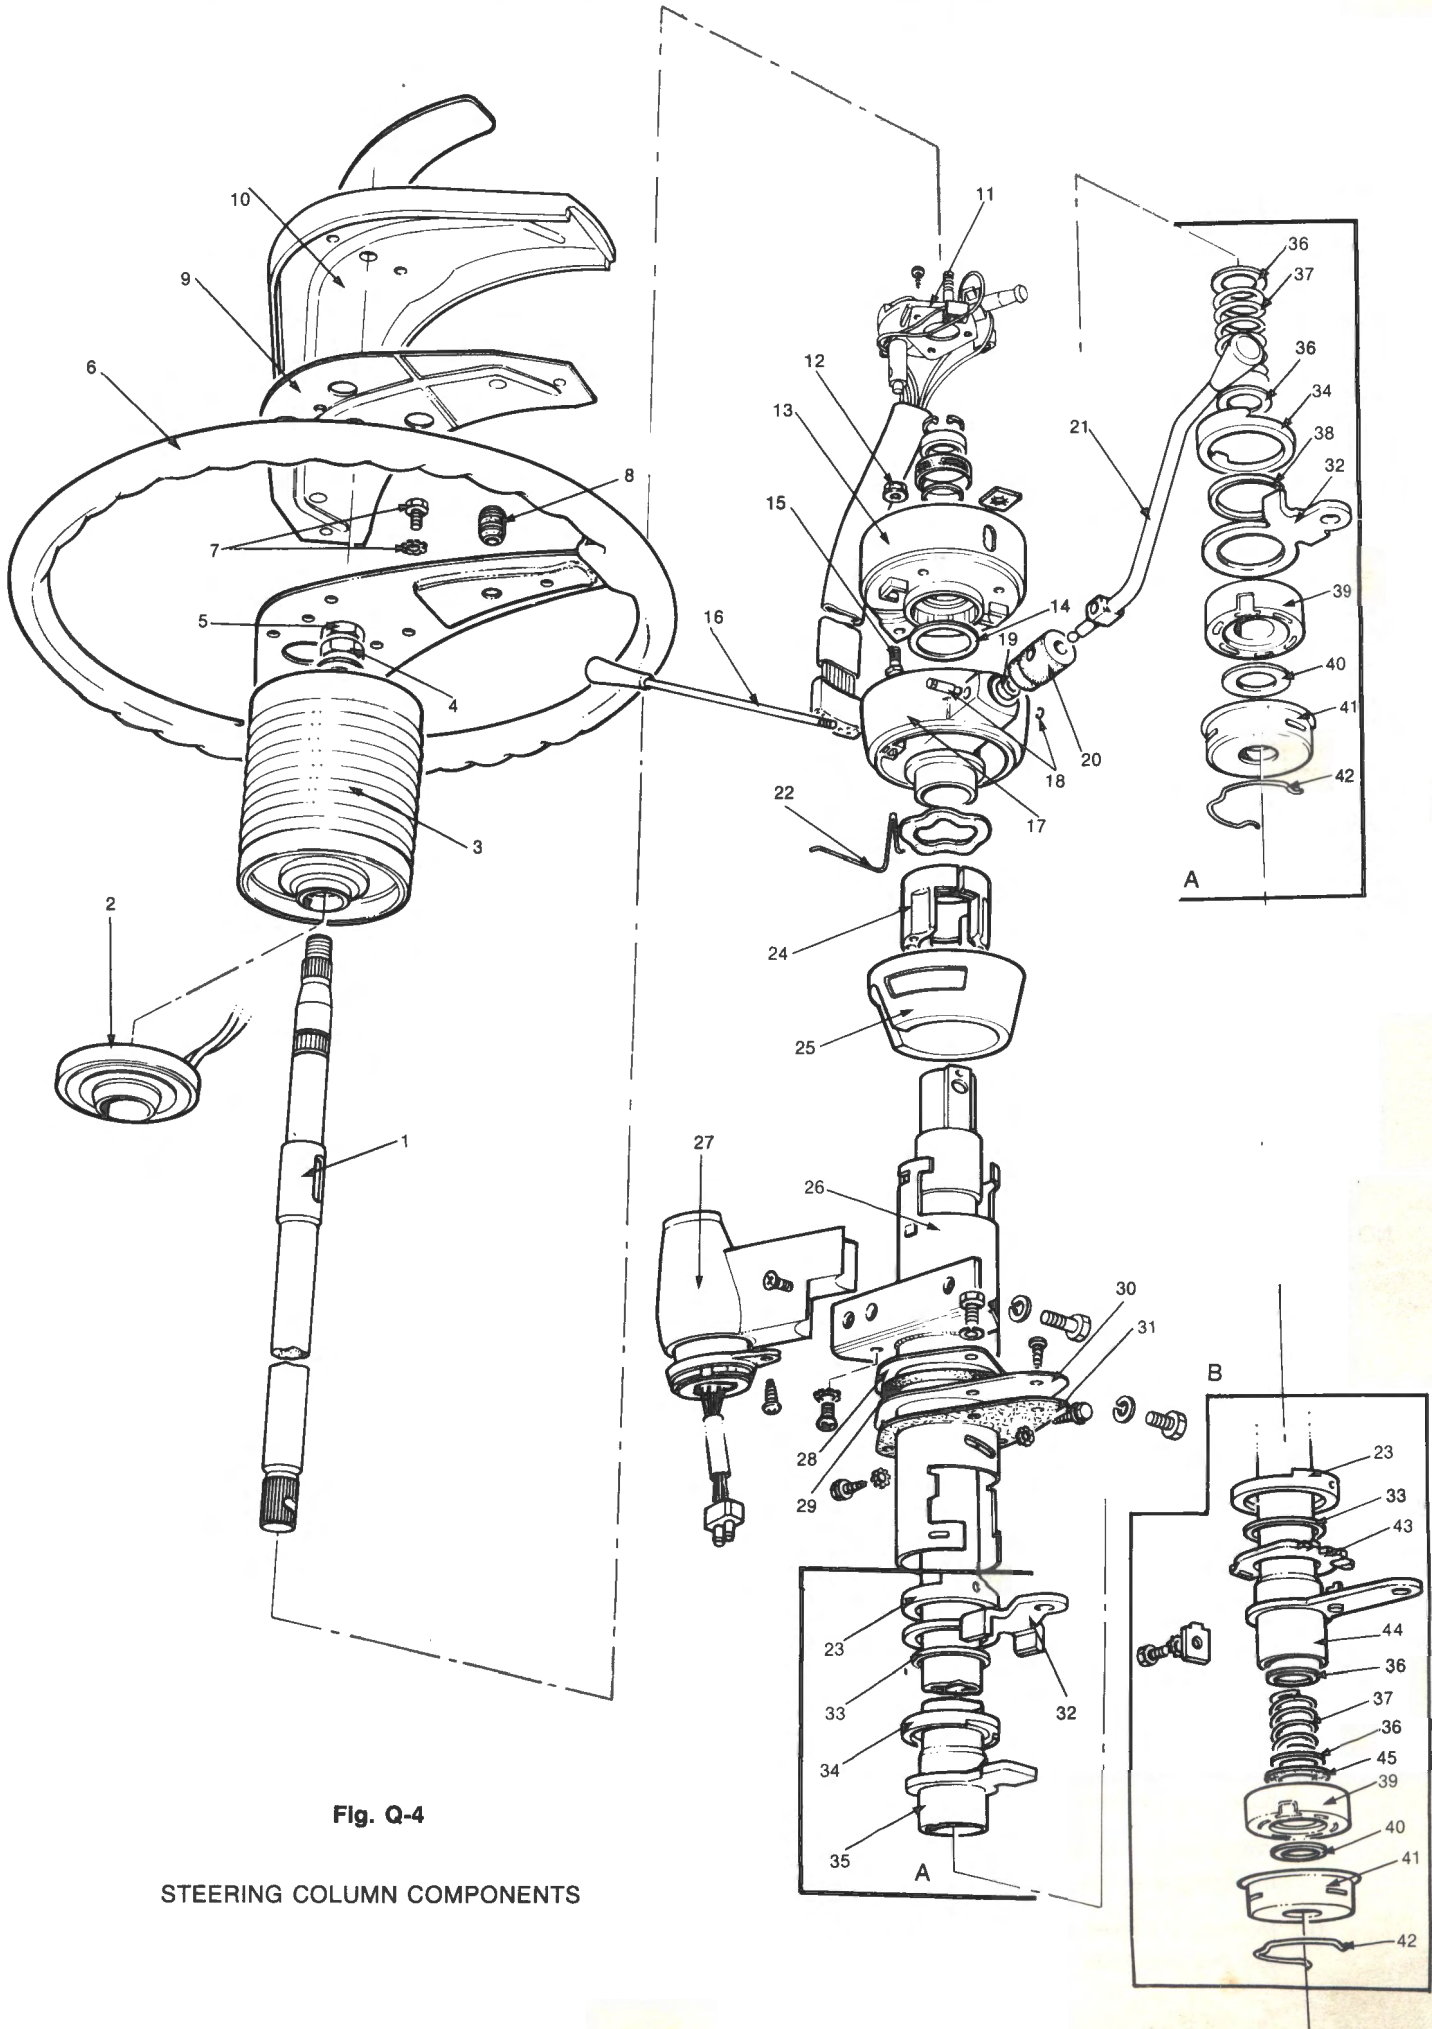

Fig. Q-4
KEY TO FIG. Q-4
- (e) The column gearshift tube upper bearing No. 23 Fig. Q-4, must be adjusted so that the gearshift lever(s) have no load or end float otherwise the gearshift will be stiff or excessive end float will be present. To adjust, loosen the bearing retaining screws and rotate the bearing in the appropriate direction.